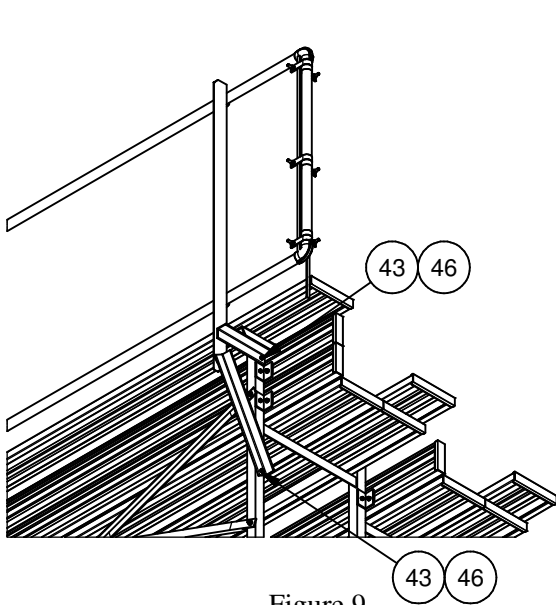

Figure 9
16. Install the side rail weldments onto the ends of the bleacher. Locate one vertical on the top row 6th row, and on the 4th row. Position the verticals as shown in figure 9. Using the holes in the angles, drill the four 3/8" holes through the seat plank (2 holes) and the foot planks (2 holes). Attach the verticals using the 3/8" x 2.5" hex bolts and 3/8" whizlock nuts. Make sure the clamp plate is placed on the underside of the plank before installing the nuts. Tighten all bolts and nuts securely.